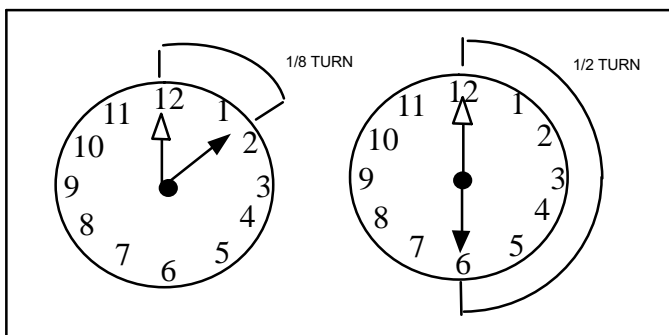

Figure 8. Tightening Distance
3. Connect the liquid line assembly with the brass nut to the liquid line orifice housing. Finger tighten and use an appropriately sized wrench to turn an additional 1/2 turn clockwise as illustrated in figure 8, or 20 ft-lb.
2. Attach the stubbed end of the TXV to the liquid line orifice housing. Finger tighten and use an appropriately sized wrench to turn an additional 1/2 turn clockwise as illustrated in figure 8, or 20 ft-lb.
4. Attach the liquid line assembly with brass nut to the TXV. Finger tighten and use an appropriately sized wrench to turn an additional 1/2 turn clockwise as illustrated in figure 8, or 20 ft-lb.
6. Connect the equalizer line from the TXV to the equalizer suction port on the suction line. Finger tighten the flare nut plus 1/8 turn (7 ft-lbs) as illustrated in figure 8 on page 15.